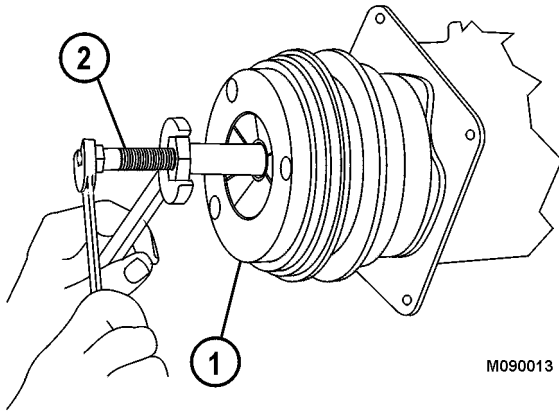

FIGURE 4-19.
4. Thread clutch plate and hub assembly remover (2, Figure 4-19) into the hub of clutch assembly (1). Hold the body of the remover with a wrench and tighten the center screw to pull the clutch plate and hub assembly from the compressor.